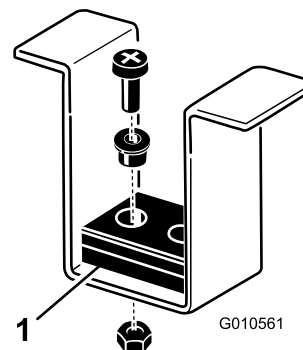

Figure 10
- Check to make sure that the front height-of-cut pins are resting properly on the frame cushions (Figure 10). If the pins are not resting properly, place a shim or shims under the cushion to raise it for proper alignment.